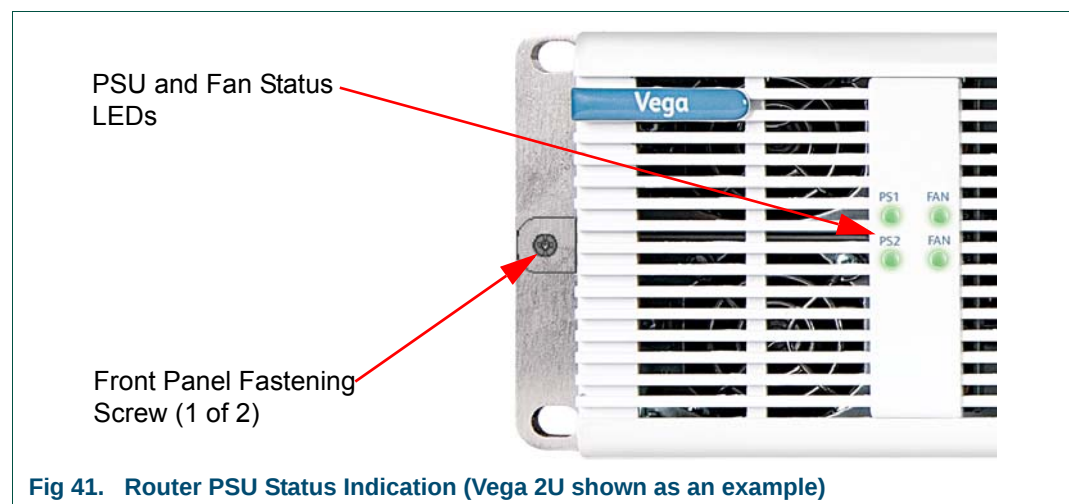

Fig 41. Router PSU Status Indication (Vega 2U shown as an example)
1. If a Power Supply or Power Supply fan fails on the Vega Video Router the Status LEDs on the left of the Vega Video Router front panel will indicate which has failed (Figure 41 and Table 19.).
11. Tighten the captive front panel fastening screws on the left and right of the router (see Figure 41) to lock the front panel.